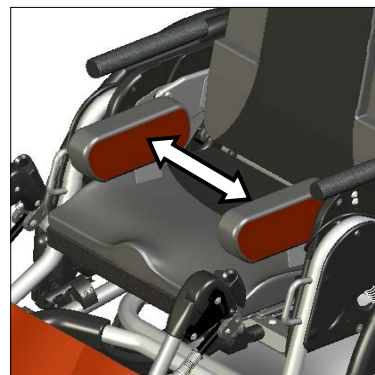

Figure 6: Hip Width Adjustment
2. Hip width can be adjusted by adding or removing layers of 1/4" foam from adductor covers (**Fig. 6**).